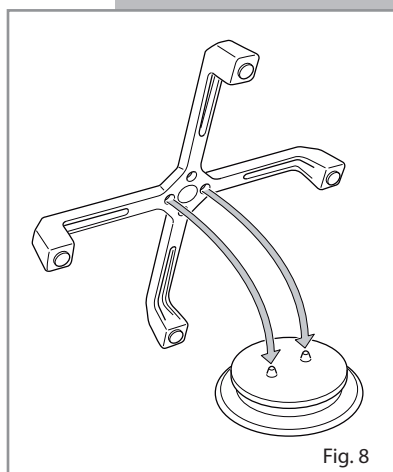

Fig. 8
- The pan supports shall be correctly positioned as indicated in fig. 8. The pan supports shall be level and must not rotate.